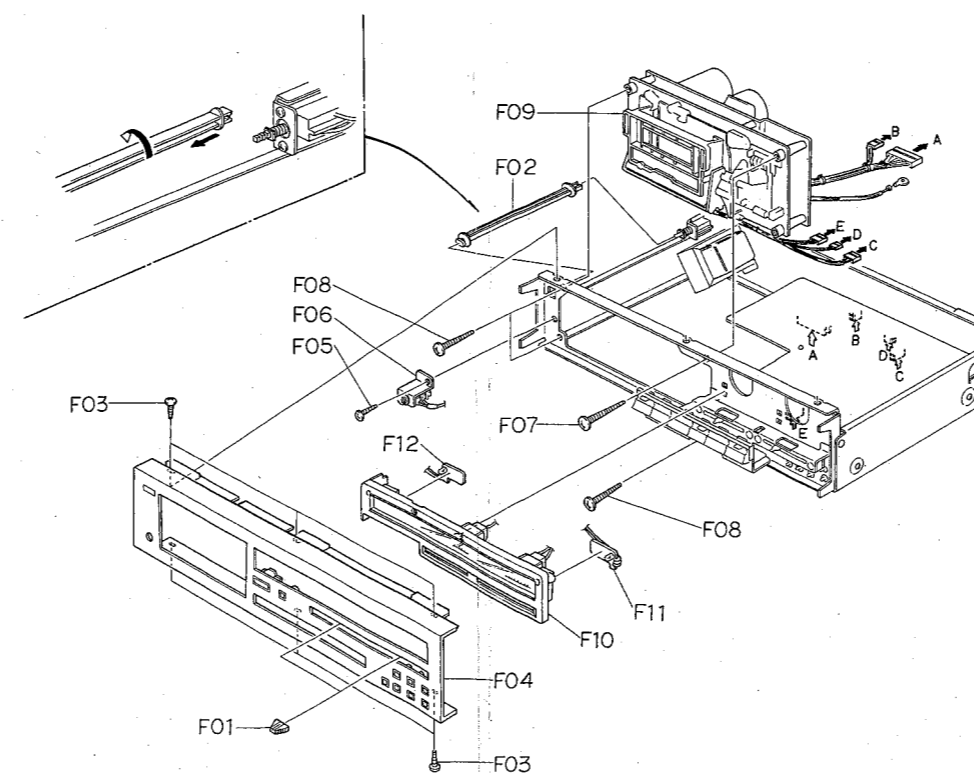

Fig. 3.2
Refer to Fig. 3.2.
- (1) Refer to Fig. 3.2. Remove Front Panel Ass'y referring to item 3.4.
- (2) Remove 5 connectors and the wires connected by wrapping from the F05 (Main P.C.B. Ass'y).
- (3) Remove F01, F02, F03, F04 and the Record Switch Linkage from the Wire Holder assembled with Record Switch, then disassemble F05 (Main P.C.B. Ass'y).
- (1) Refer to Fig. 3.2. Remove Meter Ass'y referring to item 3.7.
- (2) Remove F06, then disassemble F07 (Control Switch Holder Ass'y).
- (2) Remove F08, then disassemble F09 (Switch P.C.B. Ass'y).
- (1) Refer to Fig. 3.2. Remove Mechanism Ass'y referring to item 3.6.
- (2) Press the Eject Button to open the Cassette Case Ass'y.
- (3) Remove F01, then disassemble the piston of the Pneumatic Damper Ass'y.
- (4) Remove F02 and F03 (Cassette Case Holder L Ass'y), then disassemble F04 (Cassette Case Ass'y).
- (5) Remove F05, then disassemble F06 (Cover Plate Ass'y).
- (2) Remove F07, then disassemble F08 (Tape Counter Ass'y).
- (2) Remove F01 and F02, then disassemble F03 (Flywheel Holder Ass'y) and F08 (Capstan Belt).
- (3) Remove F04, then disassemble F05 (Capstan Motor Ass'y).
- (4) Remove F06, then disassemble F07 (Control P.C.B. Ass'y).
- (5) Remove F09 (Supply Flywheel Ass'y), then disassemble F10 (Take-up Flywheel Ass'y).
- (6) After removing both Flywheel Assemblies, disassemble F11 (Thrust Washer 3 mm), F12 (Thrust Washer 2.6 mm), F13 (Flange Thrust Caps) and F14 (Thrust Springs).